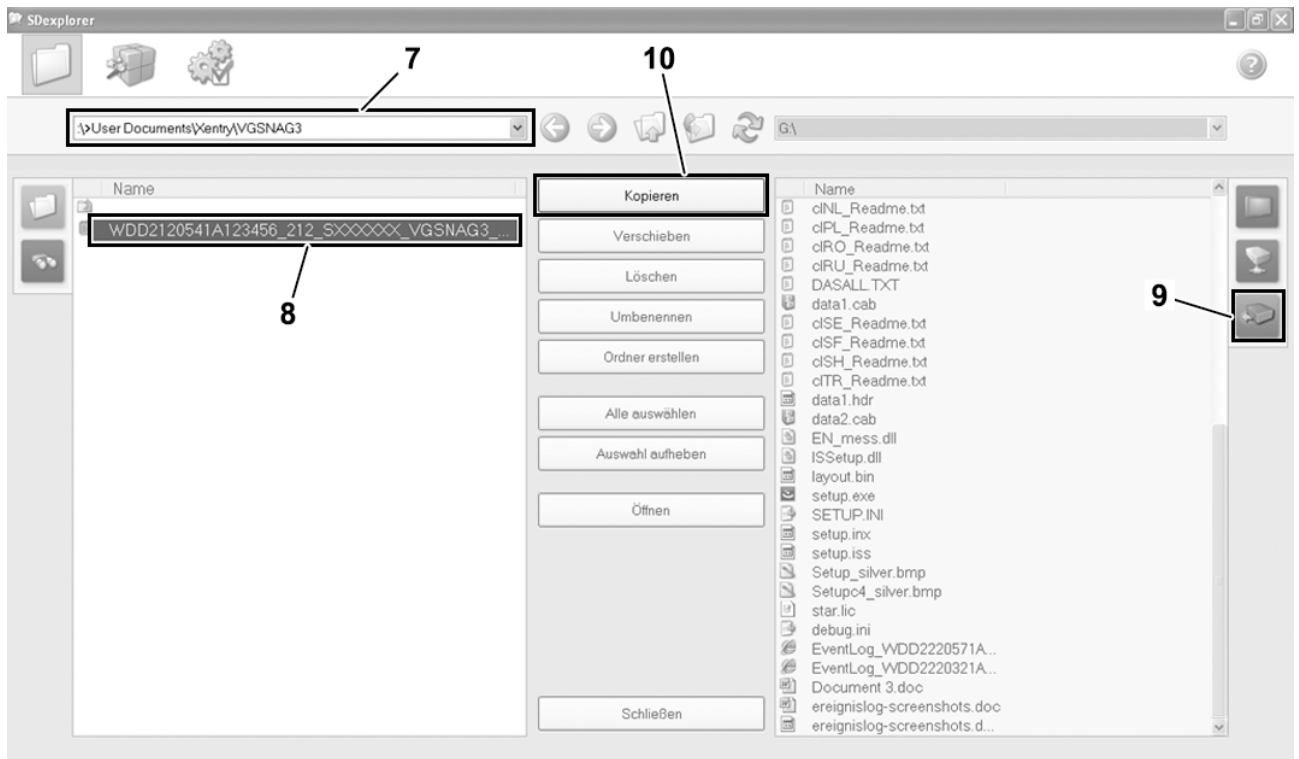

Figure 4.
7. The EEPROM data (Figure 4) (8) with VIN is stored in the SDexplorer under “USER_DOCUMENTS\Xentry\VGSNAG3\” (Figure 4) (9).
8. To enable data to be transferred onto a data medium a “USB data medium” (Figure 4) (9) must be chosen as the storage option.
9. Transfer the data using “copy” (Figure 4) (10) to a USB stick. The file contains the VIN and date and time as the file name.